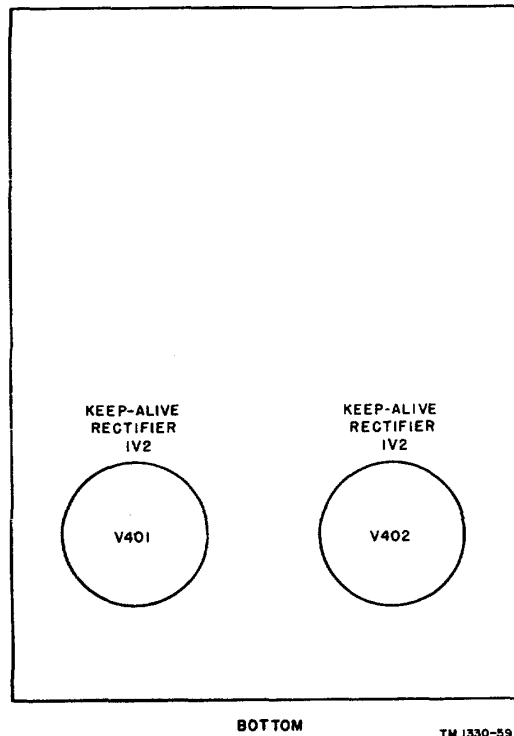

Figure 87. Keep-alive power supply tube location diagram.
- (1) All power supply tubes (fig. 86), except the two keep-alive rectifiers, V401 and V402, are located on the front of the hinged panel. The two keep-alive rectifiers are located at the bottom, on the rear of the receiver-transmitter hinged panel (fig. 87). The keep alive rectifiers are held in their sockets by removable shields, and the rest of